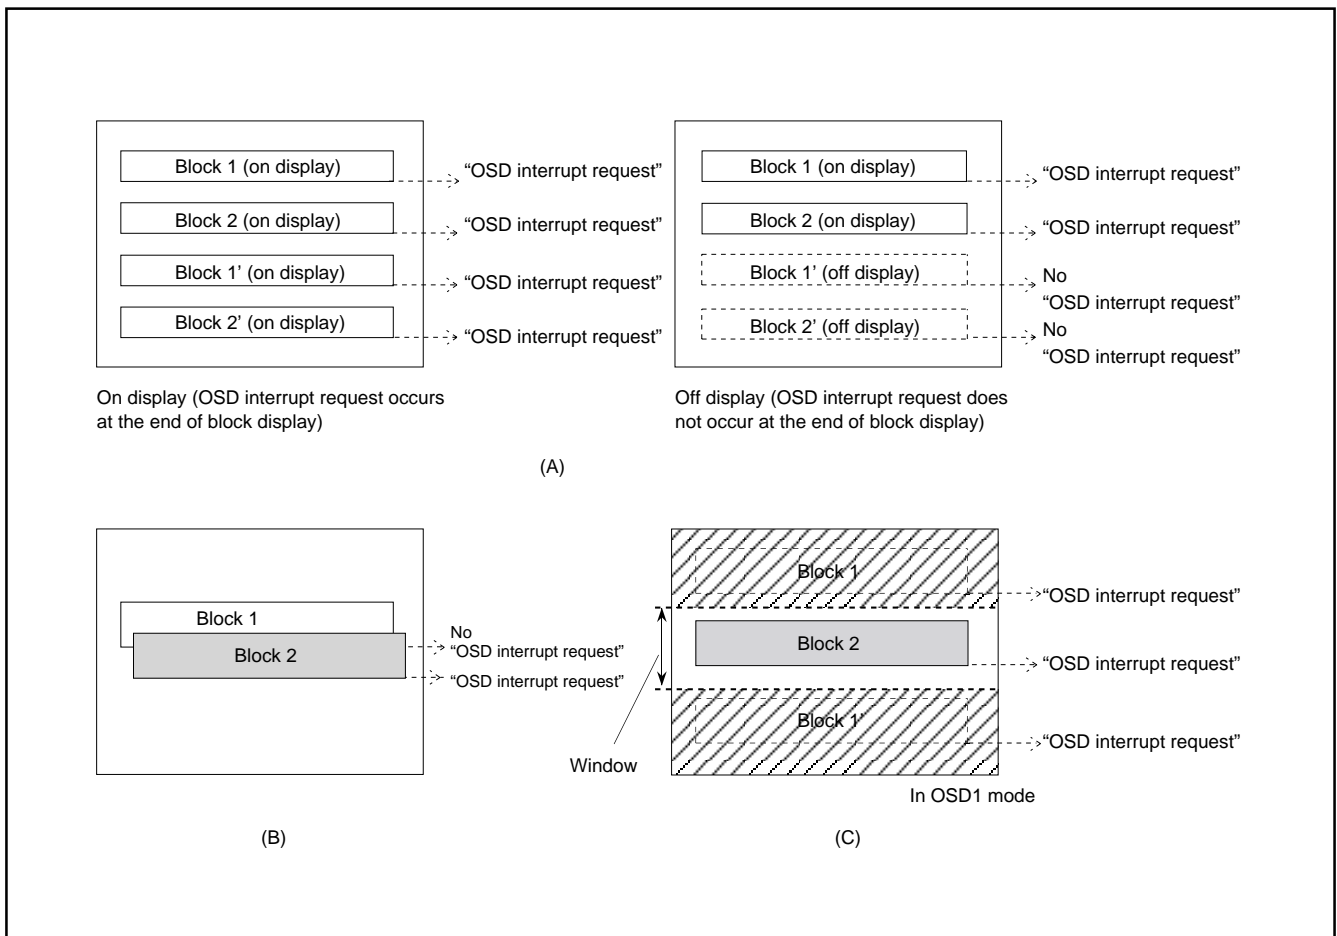

Fig. 8.10.24 Note on Occurrence of OSD Interrupt
- Notes 1:** An OSD interrupt does not occur at the end of display when the block is not displayed. In other words, if a block is set to display OFF by the display control bit of the block control register (addresses 00D216, 00D316), an OSD interrupt request does not occur (refer to Figure 8.10.24 (A)).
- 2:** When another block display appears while one block is displayed, an OSD interrupt request occurs only once at the end of the second block display (refer to Figure 8.10.24 (B)).
- 3:** On the screen setting window, an OSD interrupt occurs even at the end of the OSD1 mode block (display OFF) out of window (refer to Figure 8.10.24(C)).